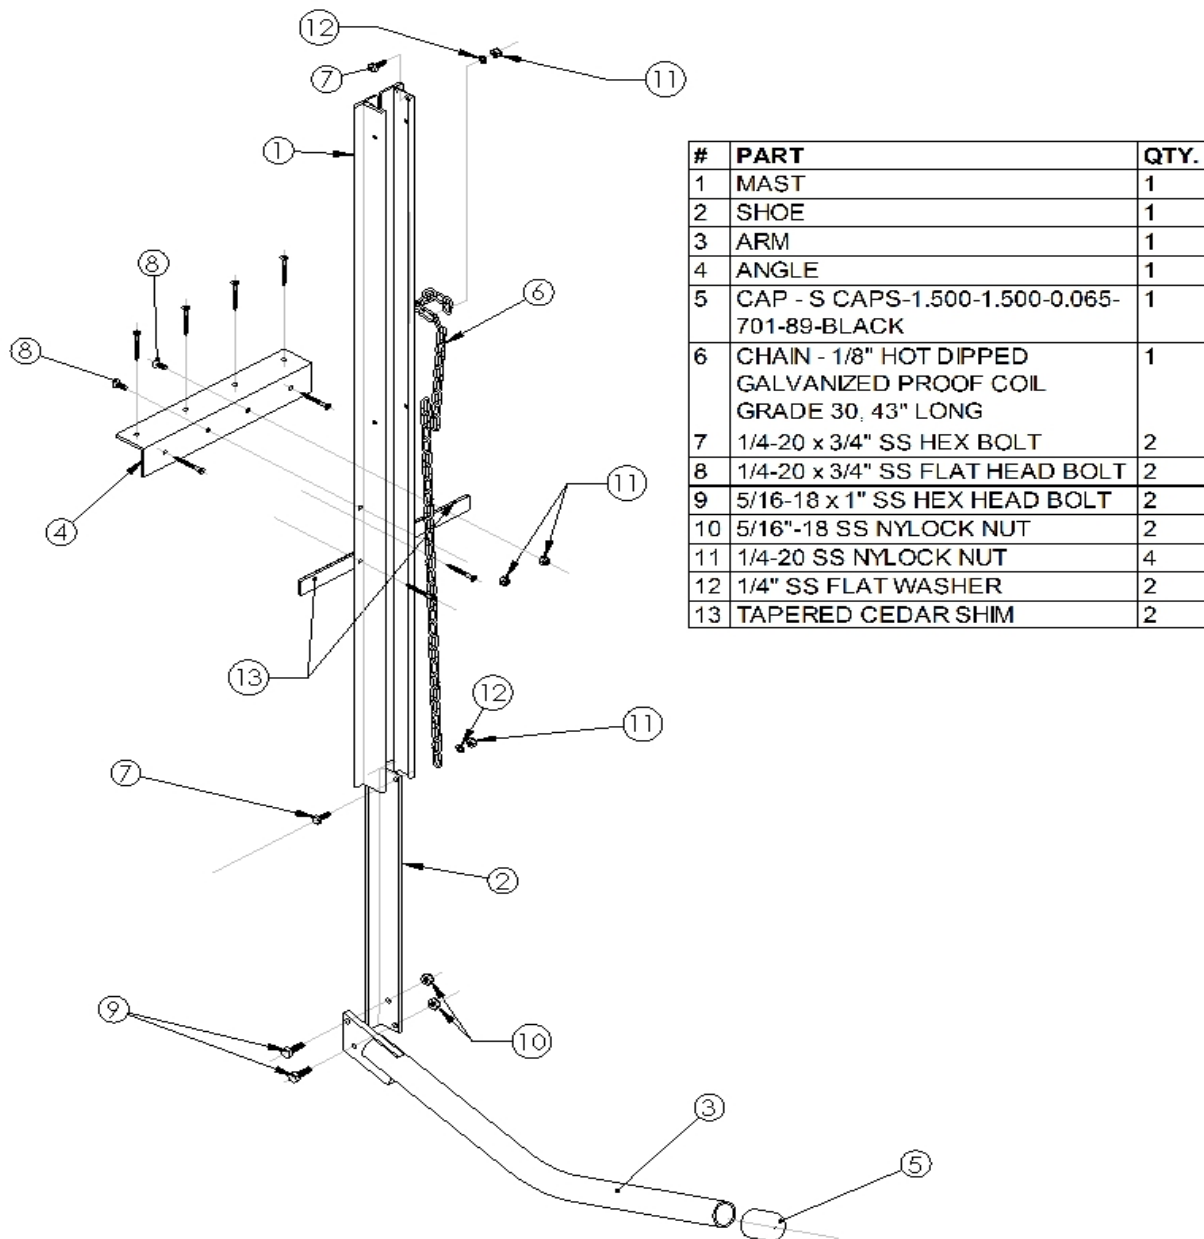

FIGURE 1
- Parts List (Refer to Figure 1):
- One of each of the following: mast (1), shoe (2), arm (3), angle (4), cap (5), and chain (6)
- Two of each of the following: 1/4"-20 x 3/4" SS hex head bolt (7), 1/4"-20 x 3/4" SS flat head bolt (8), 5/16"-18 x 1" SS hex head bolt (9), 5/16"-18 SS Nylock nut (10), 1/4" SS flat washer (12) and tapered cedar shims (13)
- Four of the following: 1/4"-20 SS Nylock nut (11)
- Completing the assembly (Refer to Figure 1):
- Using 2 flat head bolts (8) and 2 Nylock nuts (11) fasten the angle (4) onto the mast (1) through the upper set of holes in the mast flanges.
- Using 2 hex head bolts (9) and 2 Nylock nuts (10) fasten the bent arm (3) onto the bottom of the shoe (2). **Note that the bolts pass through the arm plate first and then the shoe otherwise binding may occur during hoisting.**
- Using hex head bolts (7) washers (12) and Nylock nuts (11) fasten one end of the chain (6) to the top of the mast and the other end of the chain to top of the shoe.
- Mounting details will vary depending on dock construction. The following is one example for mounting on a straight sided wooden dock (Refer to Figures 1 & 2):